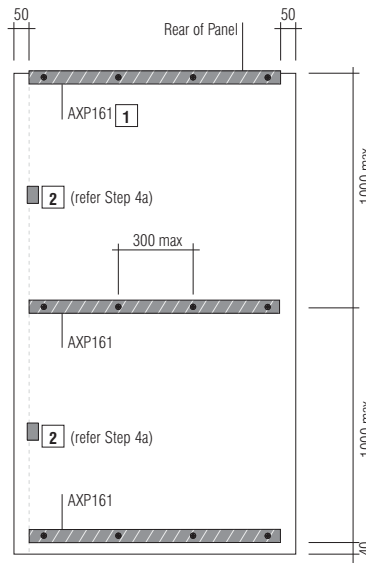

Fig. 7
- 2 Measure 50mm in from either vertical edge of the panel and mark with a continuous line. Cut AXP161 panel rails to suit. (refer fig.7)